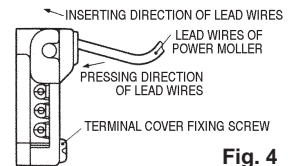

Fig. 4
5. When wiring is done, press the clamp button to insert the lead wires into the lead wire insertion holes as shown in Fig. 4.